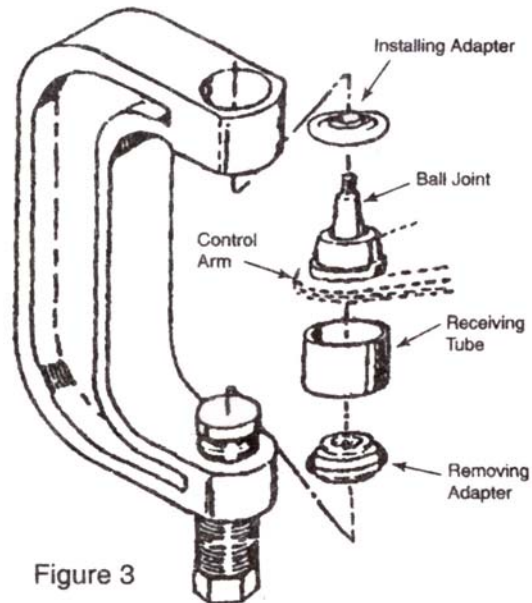

Figure 3
1. Assemble the ball joint press over the control arm as shown in Figure 3. Select the correct size receiving tube (Item 6, 7, or 8), and position it under the vehicle ball joint
refer to Figure 3.